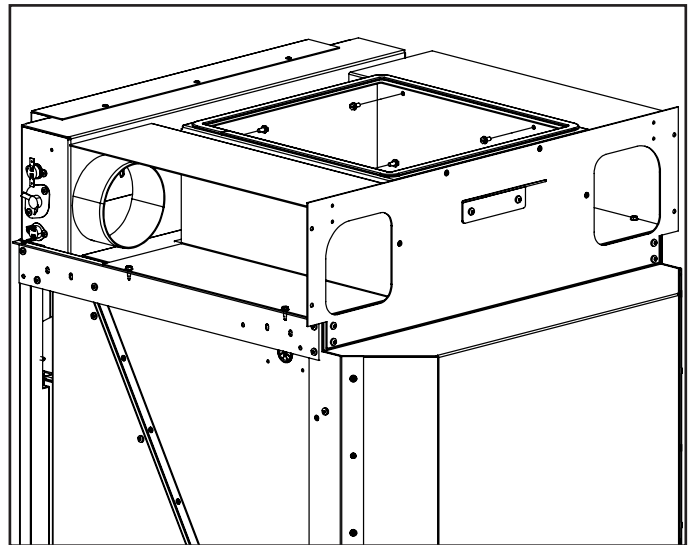

Figure 12: Install of duct shields.
12. Attach the Duct Shields using four provided #8 sheet metal screws, figure 12.